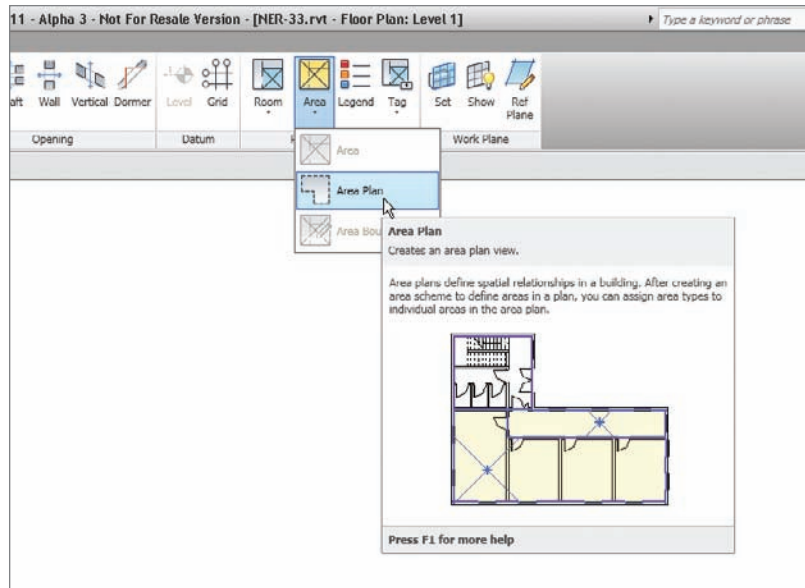

FIGURE 15.27 Clicking the Area Plan button
1. On the Room & Area panel of the Home tab, select Area and click the Area Plan button, as shown in Figure 15.27.